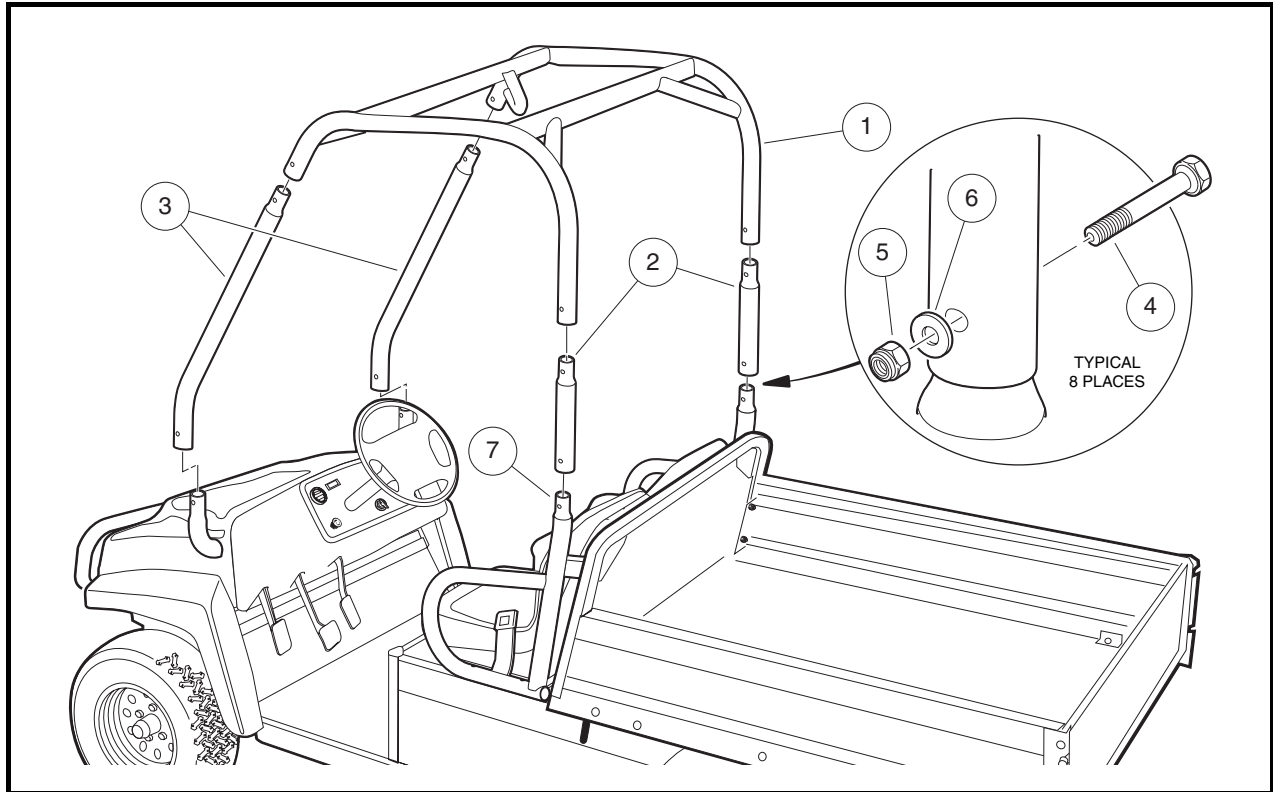

Figure 4-4 Roll-Over Protective Structure (ROPS)
1. Remove the lower four bolts (4), four washers (6), and four locknuts (5) that secure the top structure (1, 2, and 3) to the vehicle, and remove the top structure (**Figure 4-4, Page 4-6**).
1. Remove the bolts, washers, and flanged locknuts from the seat frame (7), seat side plates, and engine cover plate (**Figure 4-4, Page 4-6**).
1. Install the seat frame (7) (**Figure 4-4, Page 4-6**).